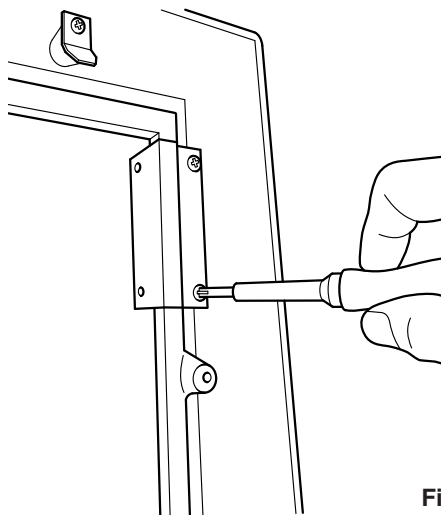

Fig. 11
4. Now remove the two galvanized steel canopy brackets as shown (Fig. 11) and discard the brackets and their screws.